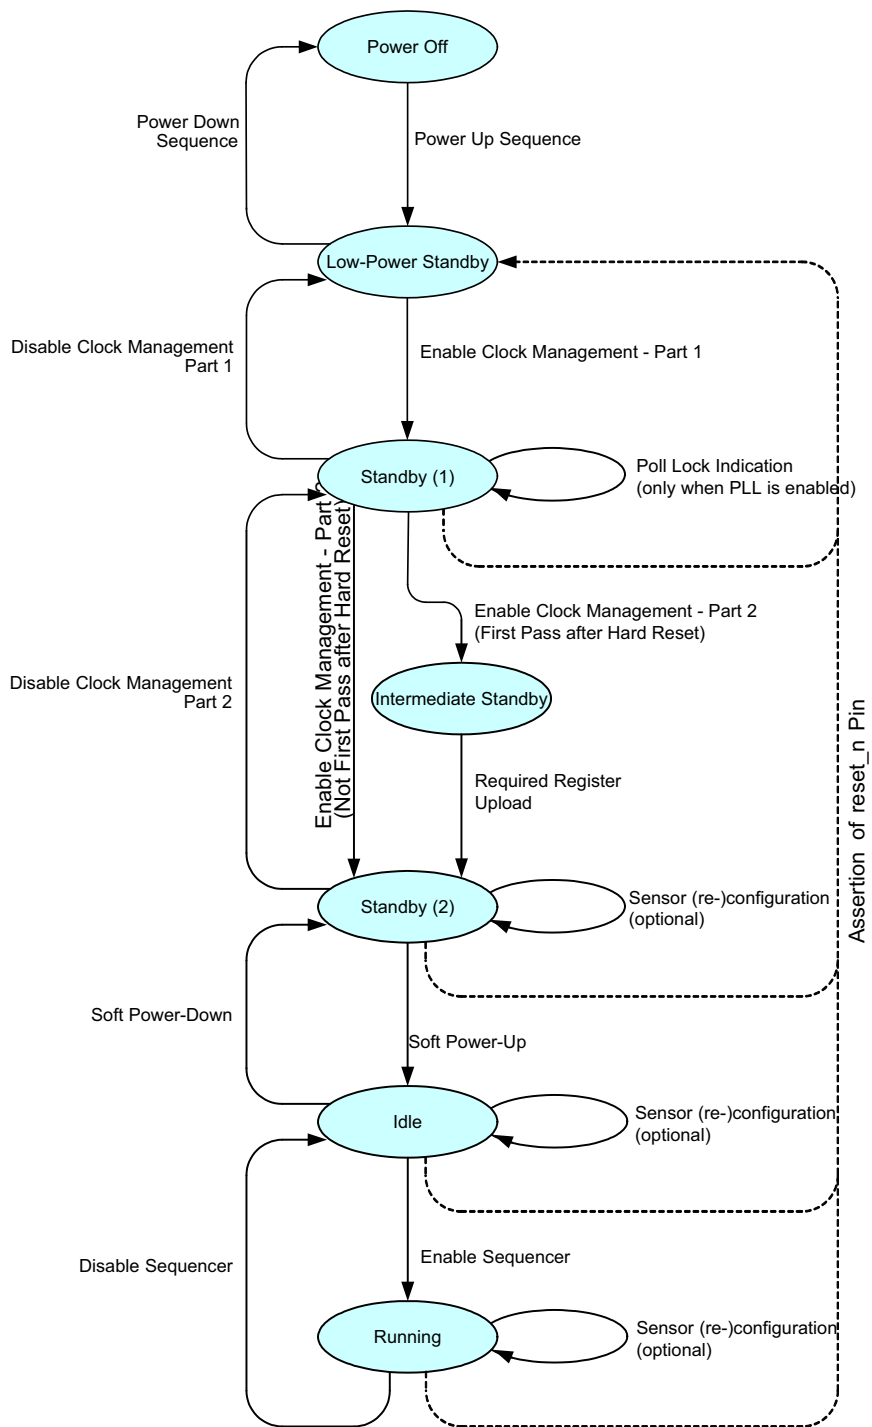

Figure 16. Sensor Operation Flowchart
Figure 16 shows the sensor operation flowchart. The sensor has six different 'states'. Every state is indicated with the oval circle. These states are Power off, Low power standby, Standby (1), Standby (2), Idle, Running.
Check the PLL_lock flag 24[0] by reading the SPI register. When the flag is set, the ‘Enable Clock Management– Part 2’ action can be continued. When PLL is not used, this step can be bypassed as shown in Figure 16 on page 14.